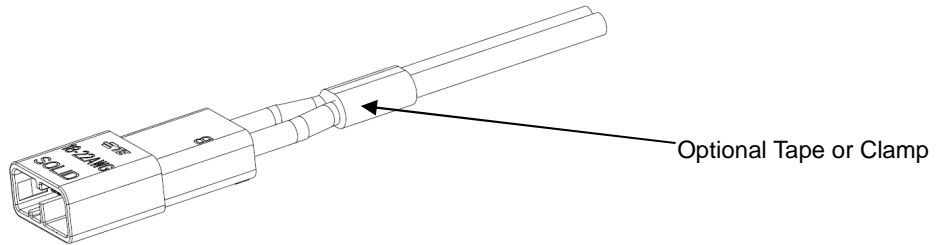

Figure 5
3. Apply optional approved flammability rated tape or clamp to organize the wire. See Figure 5.